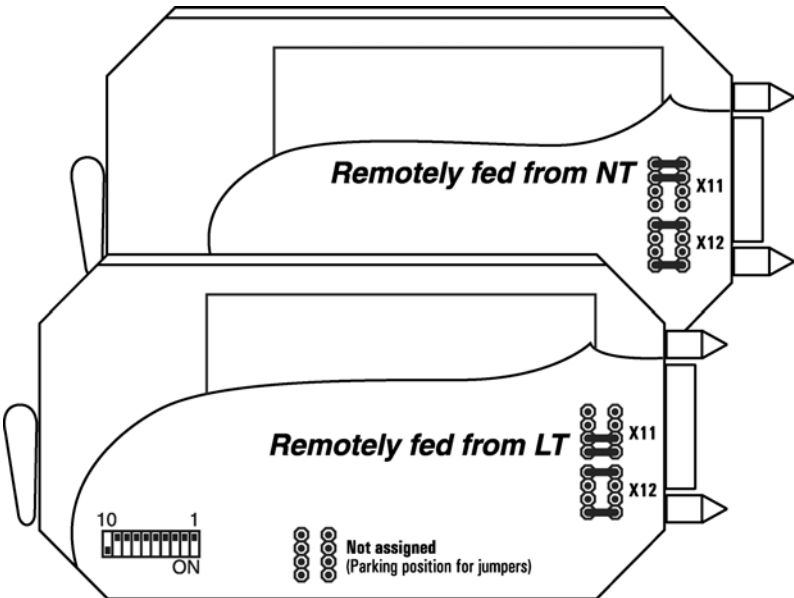

Fig. 2.284 Jumper settings for the SRU: Handoff the remote feeding
- Settings for handoff the remote feeding to the next SHDSL regenerator (Fig. 2.284)
In addition to the jumper settings DIP switch 10 must be set on 'ON' (Fig. 2.284), whatever the direction (LT or NT) for handoff the remote feeding is configured.